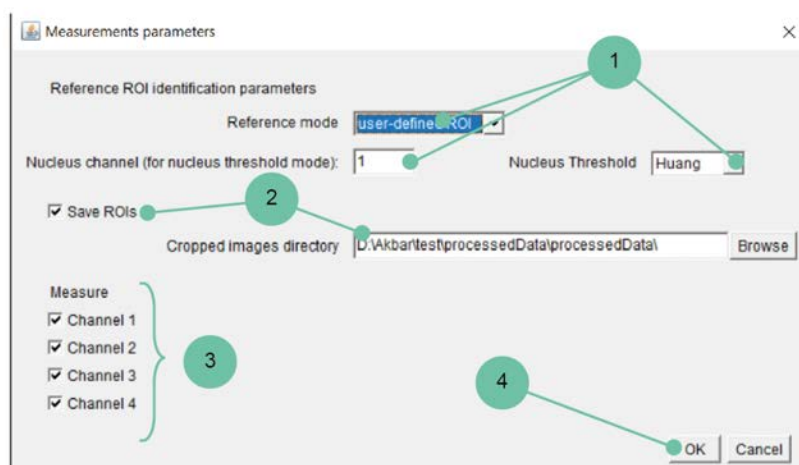
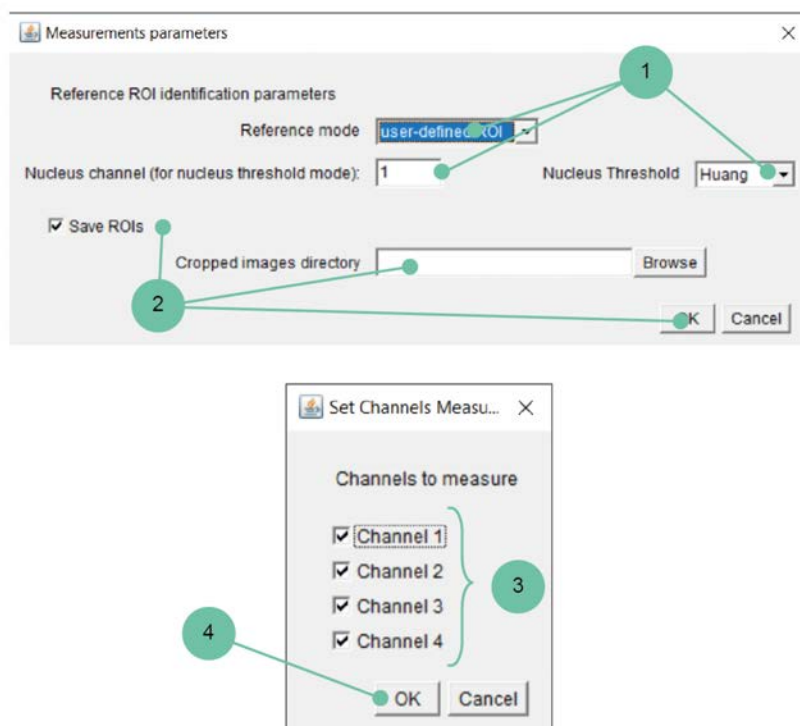
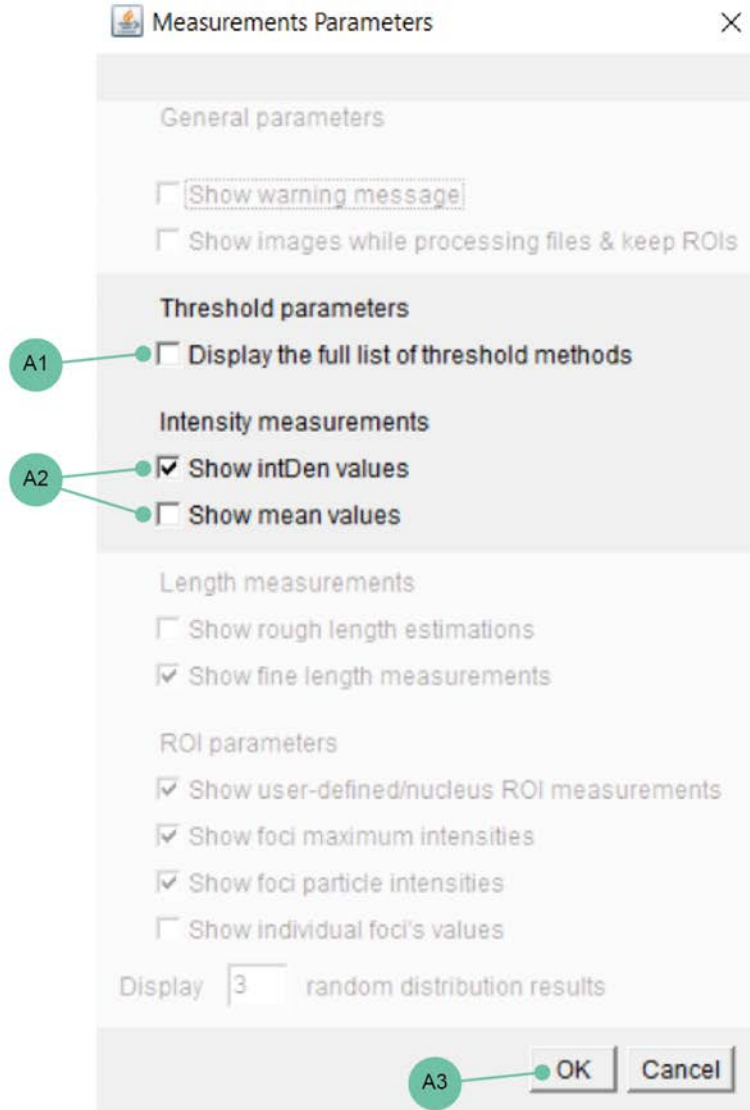

Figure 2.1. The Measure Global intensities menu (when some previous routine was used).
Figure 2.2. The Measure Global intensities menu (if no input folder was previously set).
Figure 2.4. The general parameters window.
When you click on the tool's button, the appearance of the menu will depend on whether you previously used the "Start cropping images" or any other analysis routine, as shown in figures 2.1 or 2.2. If you had previously set the input folder or a processedData folder using the same instance of the bar, the menu will appear as in figure 2.1. However, if the cropped image directory is not found, you should click the browse button (fig 2.2), choose the directory, and click OK. Then, the first found image will be opened, and you will be prompted to select the channels to measure (fig. 2.2).
**STEP1.** To set the ROI for intensity measurements, there are two options available. The first one is to use the "user-defined ROI" which corresponds to the ROI saved during the stage-cropping step. If this ROI is selected but not found, an error message will be displayed. When opting for this reference mode, you can proceed directly to **STEP2** without the need to fill in the nucleus channel and threshold fields. The other option is to use a nucleus threshold, which is typically based on a DAPI staining channel. To use this mode, choose the channel to use for the threshold (the first channel is channel 1) and select the appropriate threshold algorithm. A variety of automatic threshold methods can be accessed by clicking on the "set measurements parameters" button (see fig. 2.4, see OPTIONAL STEP A). The parameters should be set as shown in either figure 2.1 or 2.2 left. Figure 2.1 will be displayed if the stage-sorted images location was known before starting the routine, otherwise a simplified figure 2.2 left is shown.
**STEP3.** This step allows you to choose which image channels you want to measure. If you had previously set the location of the stage-sorted images, then a menu will appear (fig 2.1) where you can select the channels. If you had not set the location or changed it, a prompt will ask you to enter the number of channels (fig 2.2 middle), and then select the channels to be measured. If the routine does not find the correct number of channels, the measurement for that channel will be skipped and "not found" will be displayed in the corresponding column of the intensities.xls result file.
**STEP4.** Click on OK. The software measures each channel that the user selects for analysis. The resulting IntDen values are saved in an intensities.xls file that is located in the same folder as the stage-sorted images. It's important to note that the "intDen" values are the raw (uncalibrated) values measured by ImageJ. One can also get the mean values by checking the "Show mean values" checkbox displayed in Figure 2.4. During the analysis, the images are not displayed. However, you can choose to display them by selecting the "show images while processing files" option in the "set Measurements Parameters" of the main meiosis bar (fig. 2.4).
**OPTIONAL STEP A.** This allows users to configure additional parameters (that are shared between all MeiQUANT tools). To do so, first click on the "Set Measurements parameters" button in the meiosis bar window before running the tool. This will display the "Measurements parameters" window, as illustrated in figure 2.4.